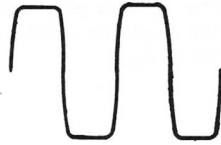

FIGURE 1.
2. Increase the audio oscillator output until the sine wave display on the oscilloscope starts to clip. (See Figure 1).